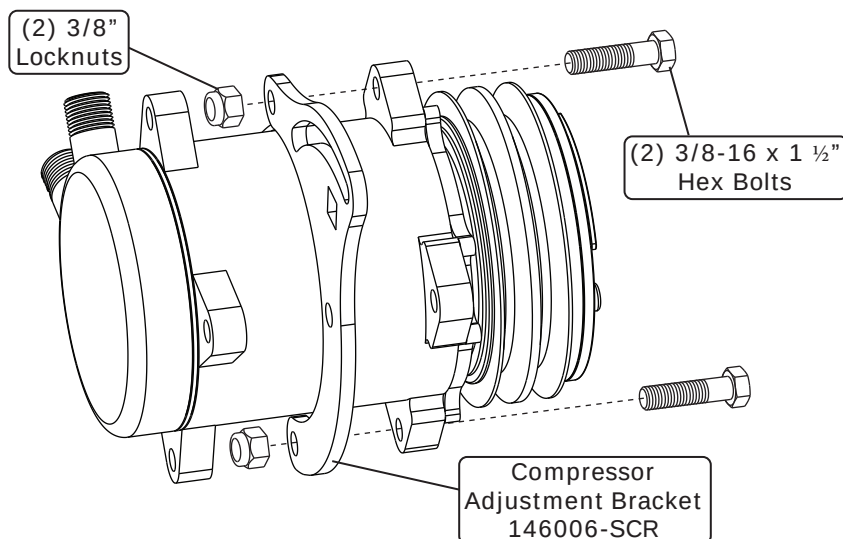

Figure 4
1. On a workbench, install the compressor adjustment bracket onto the compressor using (2) 3/8-16 x 1 1/2" bolts and (2) 3/8" locknuts as shown in Figure 4, below. Torque bolts to 23 lb ft.